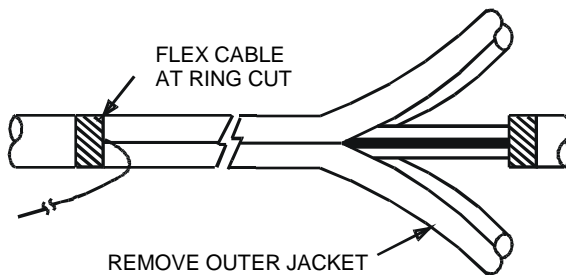

Figure 13 – Pull ripcord to open outer jacket.
7. Flex the cable at the ring cut to separate the outer jacket. Use diagonal pliers to lift an edge of the outer cable jacket. Peel back and remove the two halves of the outer jacket (Figure 13).